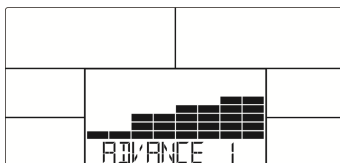

FIG. 15
2. Press UP or DOWN (Encoder) to select advanced modes 1 to 4 (Figure 15) and press MODE/ENTER to confirm entering.